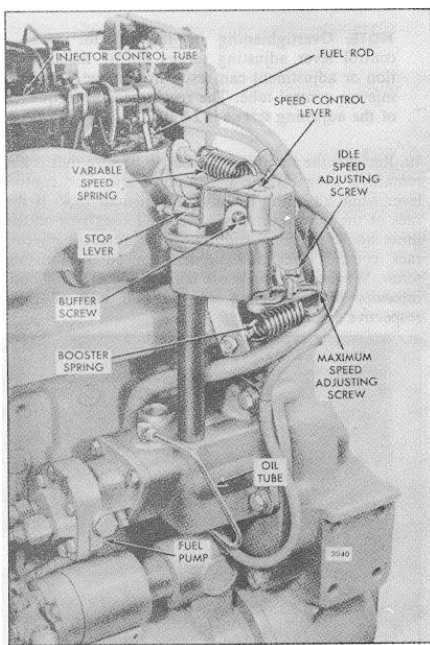

Fig. 5. Adjusting Maximum No-Load Engine Speed
- Loosen the lock nut and adjust the maximum speed adjusting screw (Fig. 5) until the required no-load speed is obtained.